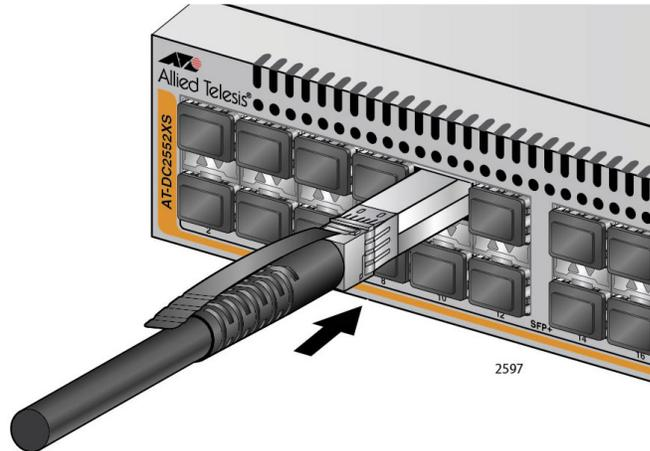

Figure 30. Installing a SFP+ Direct Attach Cable
4. Slide the direct attach cable into the slot until it snaps in place. See Figure 30